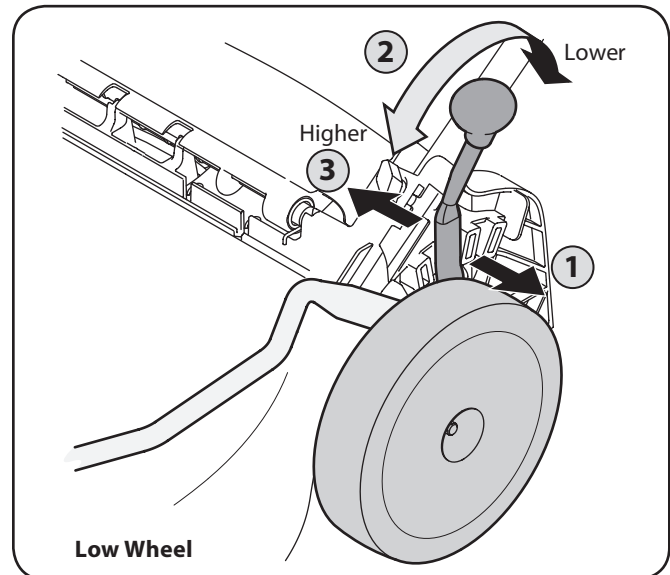

Figure 3-10
2. Slide lever to desired position for a change in cutting height. Refer to Fig. 3-10 for low wheel adjustment and 3-10A for high wheel.